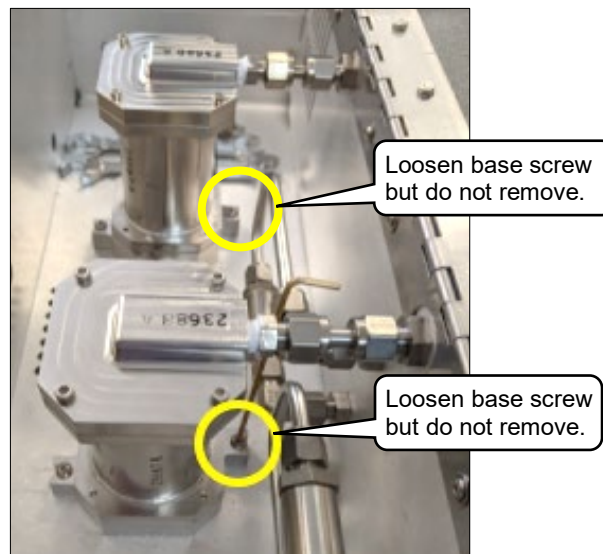

Figure 43: Loosening Scrubber Housing Inner Base Screw
2. Using the available 2.5 mm hex wrench, loosen the inner base screw of the scrubber housing but do not remove (Figure 43).